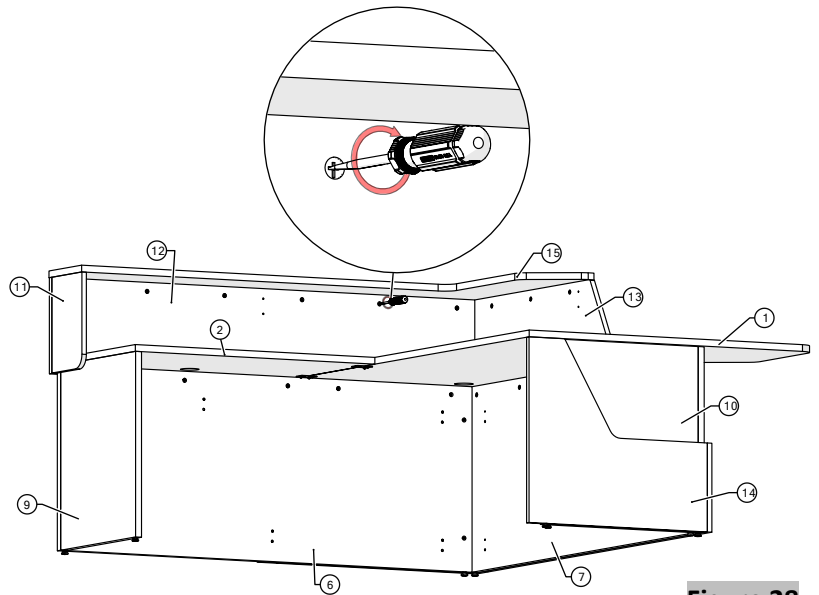

Figure 28
33. Turn the Cams using a screwdriver in a clockwise direction to smoothly lock the countertop, angled reception countertop modesty return, angled reception countertop modesty front, and reception countertop side together (Figure 28).